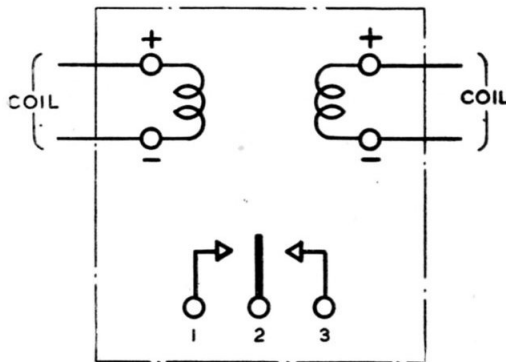

Fig. 2. Internal circuit diagram
4. A wiring diagram (fig. 2) illustrates the coil connections when the switch is viewed on the end carrying the connection leads. When a current of the same polarity as the markings on the diagram is passed through either of the coils, the moving contact (2) will make with the fixed contact (1). If the polarity of the current is reversed, the moving contact will make with the fixed contact (3).
10. Test that the moving contact operates correctly by connecting the two coils in series and passing a current of 0.625 mA. (max. 50V) through them. Reversing the polarity of the supply will check the operation in both directions as indicated in fig. 2.